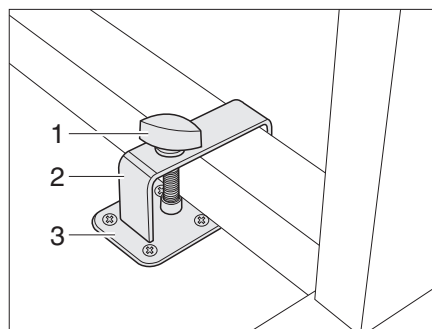
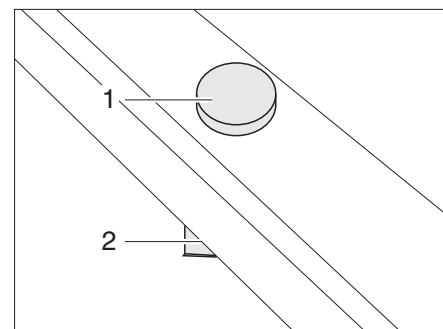

Fig. 55 Latch for swivel table with metal frame
Fig. 56 Latch for swivel table with plastic frame
- Place the swivel table next to the holder (Bild 55,3) or on the holder (Bild 56,2).
- Place the bar (Bild 55,2) with the securing bolt (Bild 55,1) over the table leg.
- Move the bar and possibly also the swivel table in such a way that the securing bolt (Bild 55,1 or Bild 56,1) can be screwed into the holder (Bild 55,3 or Bild 56,2).